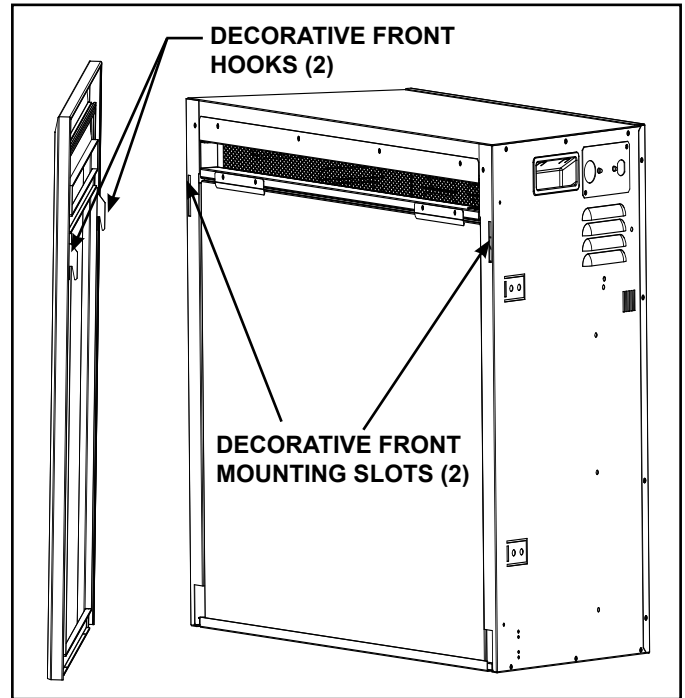

Figure 4.14 Decorative Front Installation
6. If using an optional surround, install it onto the fireplace. See Section 4.C. If not using the optional surround, place the decorative front on the fireplace to assist with determining the proper mounting depth into the framing. See front installation Figure 4.14 .
1. Install the provided appliance front by aligning the two (2) top hooks on the back of the front with the slots on the decorative front of the appliance. See Figure 4.14.